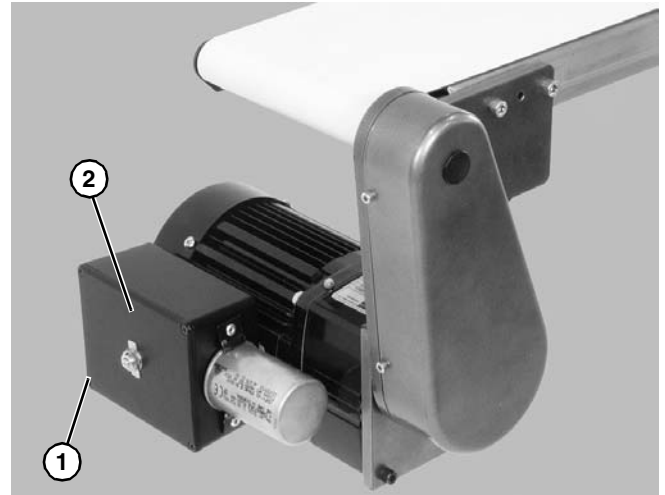

Figure 19
1. Loosen terminal box screws (Figure 19, item 1) and remove cover (Figure 19, item 2).